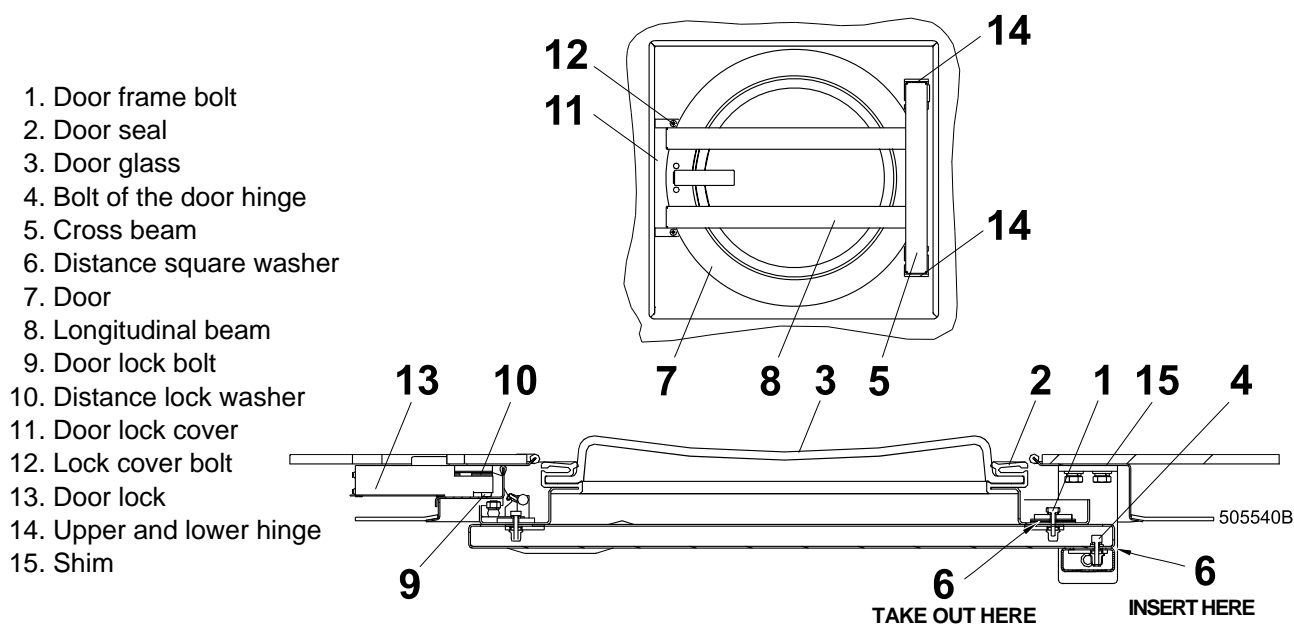

Fig.5.11.A Door fastening, 22 kg / 50 lb
REPLACEMENT OF DOOR RUBBER, WASHERS 22 kg / 50 lb, fig.5.11.A
1. Open the door. Remove the door glass, fig.5.11.A., pos.3 with rubber (pos.2) from the stainless steel door frame by pushing it towards the drum. Do it carefully, do not damage the glass.
2. Remove the gasket (pos.2) from the glass.
4. Moisten the seal groove (pos.2) for door with soap water. Place a smooth cord in the groove all around. Tighten up the margin by cord and fit the unit to the door opening (pos.5) (with the clip up). Hold one end of the cord firmly on the door. Pull the other cord end towards the center of the glass for the rubber edge properly fit in.